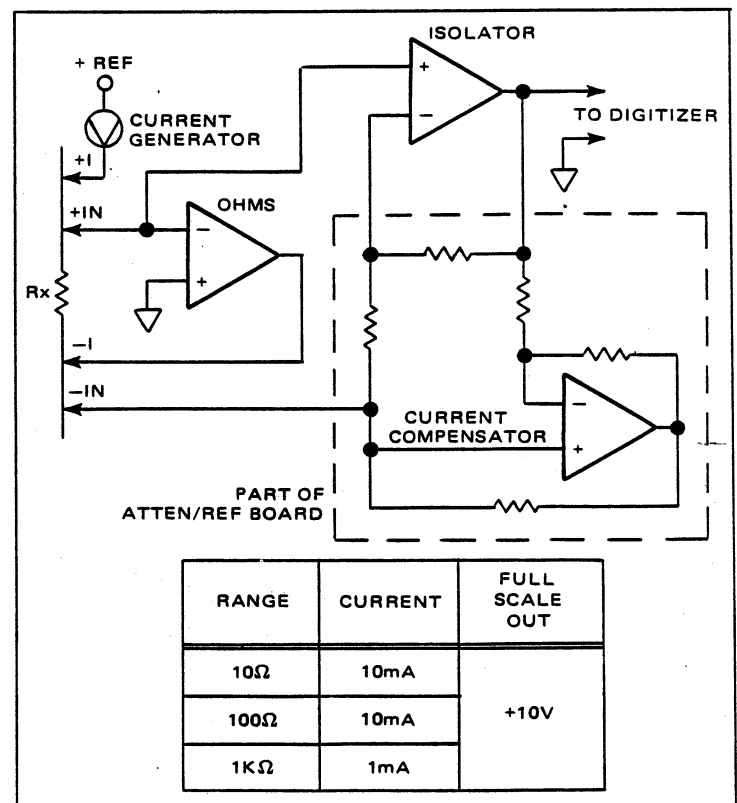

Figure 5.10 - 10 Ω - 1K Ω Ranges
5.3.4.5.4 **10 Ω - 1K Ω Ranges.** As shown in Figure 5.10, the output of the Ohms amplifier is applied to the positive input of the Current Compensator, and to the negative input of the Isolator (through part of the Gain Resistor string). The output of the Current Generator is applied to the positive input of the Isolator. In this configuration, the output of the Ohms amplifier is inverted and amplified by the Isolator for a full scale output of +10 volts. Isolator gain is 100 in the 10Ω range and 10 in the 100Ω and $1K\Omega$ ranges.